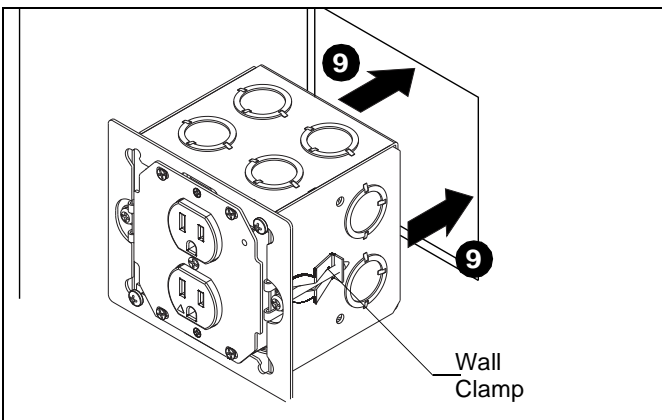

Figure 6
9. Insert EGX-SF2 housing into drywall opening. (See Figure 6)